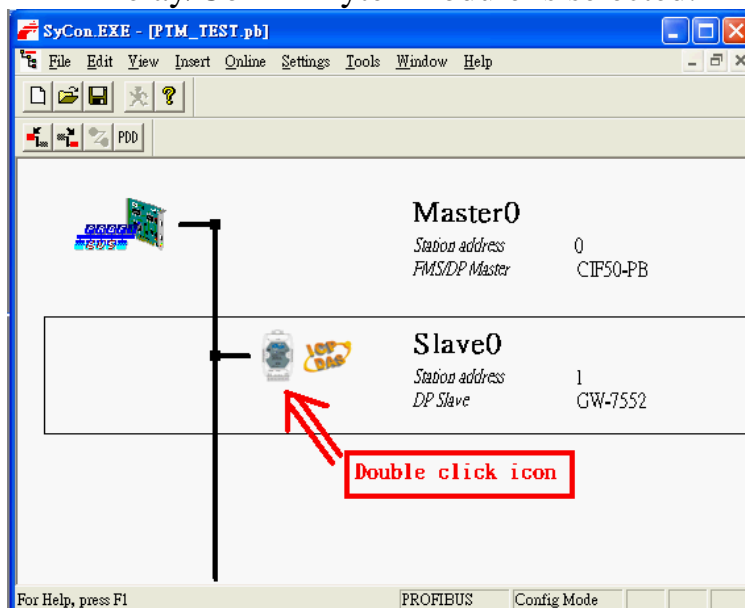

Figure 41 Double click the GW-7552 icon to open the “Slave configuration” window
Step 4: Set the GW-7552 modules, as shown in figure 41 and 42.